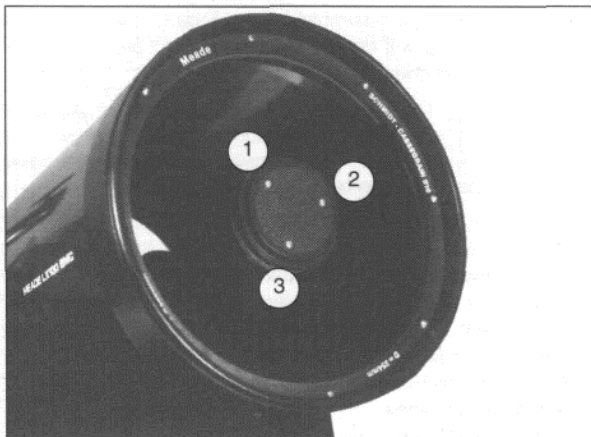

Fig. 26: Collimation of the Optical System. (1), (2), (3) Set screws for adjusting collimation.
- a. To make Collimation easy, the only adjustments possible on the 8", 10", and 12" LX200 come from the three set screws (1, 2, and 3, Fig.26) located at the edge of the outer surface of the secondary mirror housing.